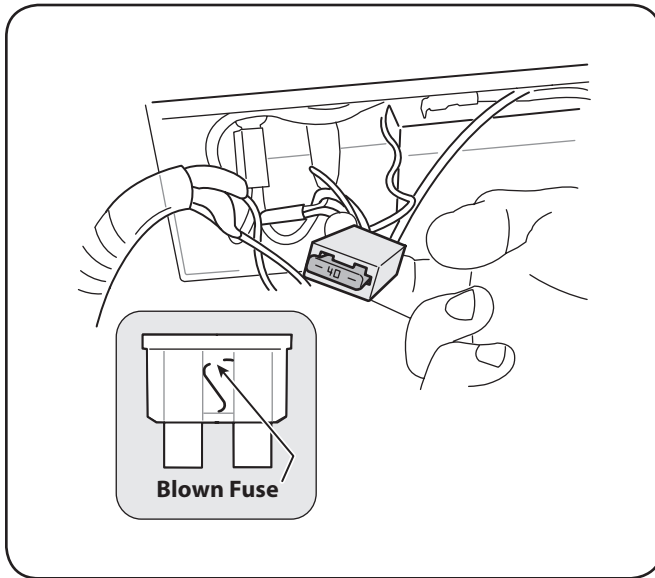

Figure 7-7
2. Remove fuse from socket and inspect as shown in Figure 7-7. If it is burned out, replace with standard automotive 40 ampere fuse.